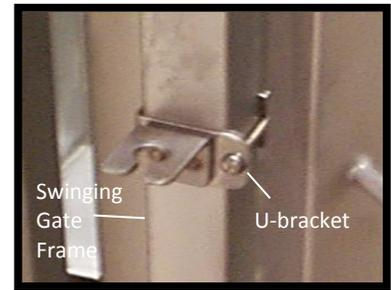

Figure 40: Handle holder in Place on Swinging Gate
1. With a flat-blade screwdriver, remove the screw from the U-bracket on the handle holder (Figure 40).